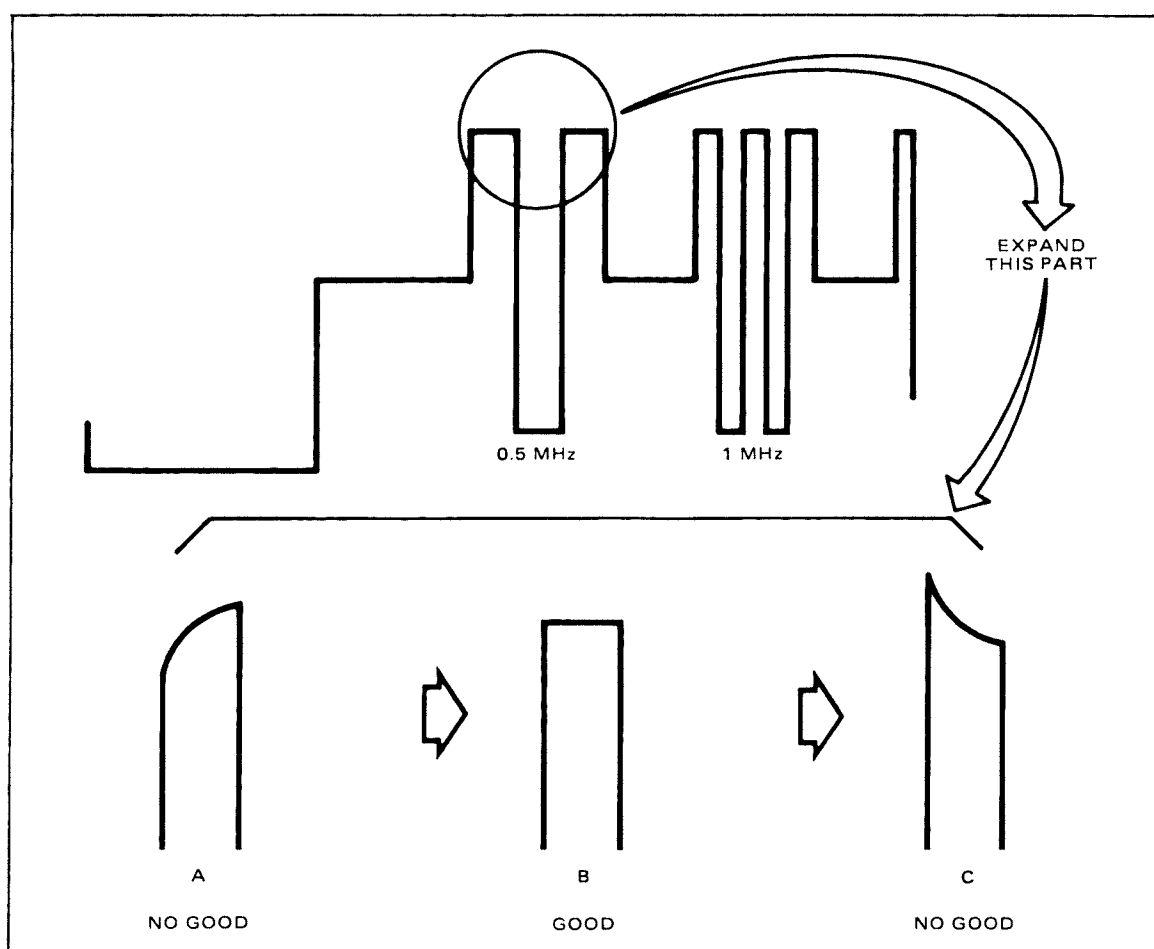

Figure 5-42. Smear Adjustment, TP 301
STEP 2 Observe TP301 on the Process PWA using an oscilloscope. Turn C5 on Pre Amp PWA to obtain the cleanest waveform as shown in Figure 5-42.